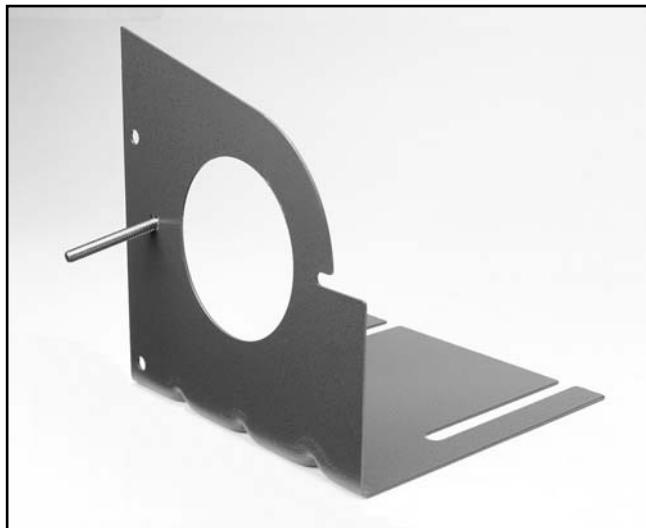

Figure 14. Attaching pulley guard bracket.
2. Insert the $\frac{1}{4}$ "-20 x 2" hex bolt through the hole in the pulley guard bracket as shown in **Figure 14**.